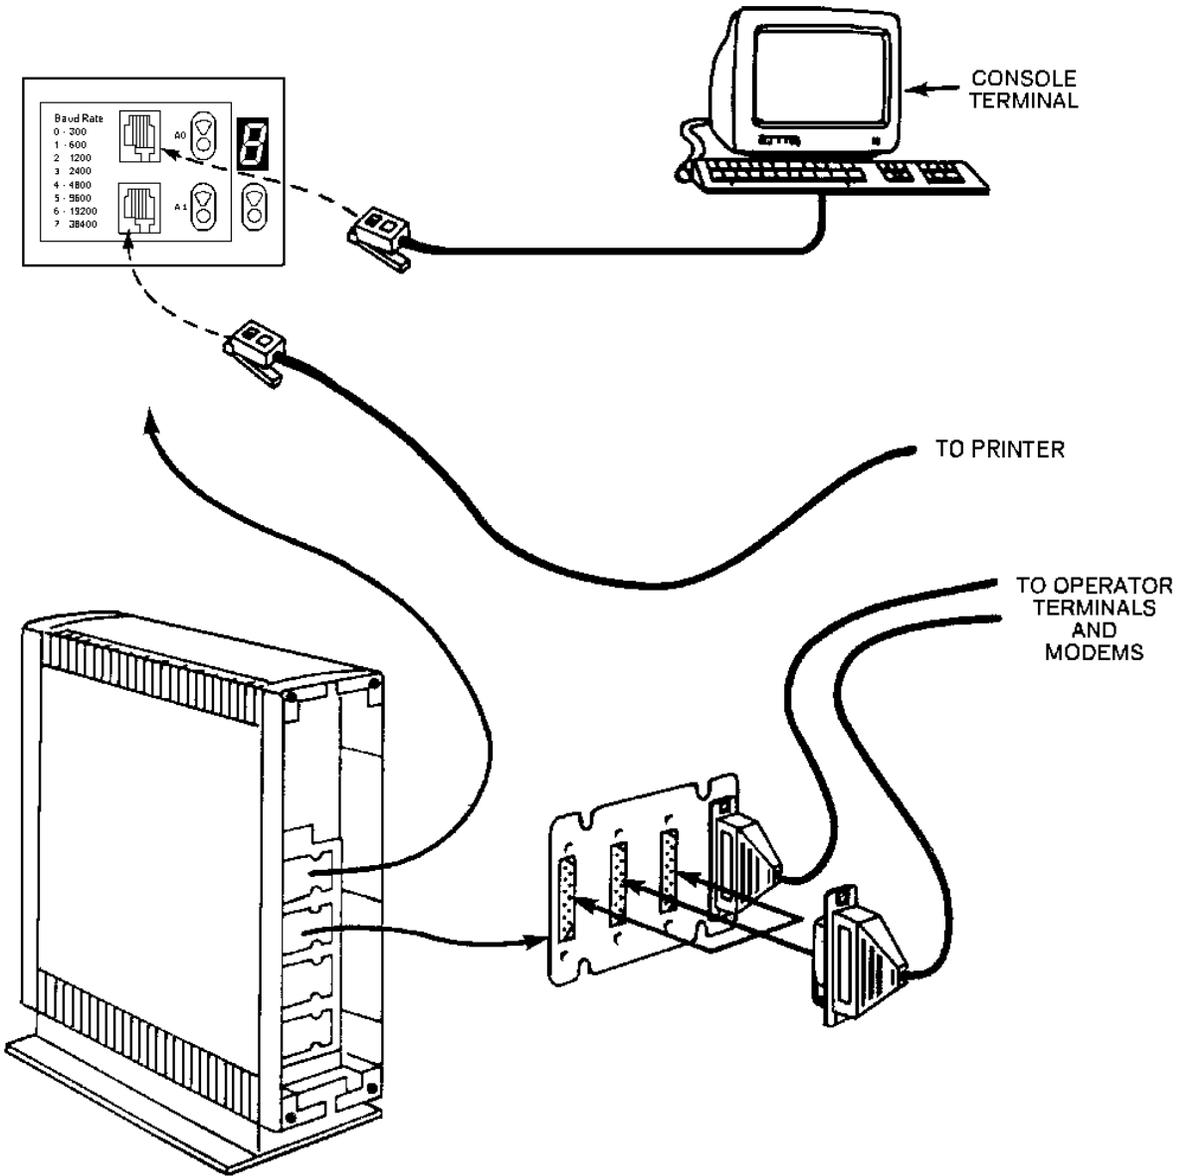

Figure 3 - Cable Connections For 11/53 In BA23 Enclosure
The proper cable connections for the system manager are shown in Figures 3 thru 5. The console terminal and the printer (if used) are connected as shown in the illustration. Operating position terminals and modems are connected to the remaining ports. The physical location of the communications ports on the system may differ from the illustration.
2. Insure that a video display terminal is connected to the console port of the computer (see Figures 3 thru 5). This will permit the operator to monitor the startup sequence for any possible errors. Turn the power on to the console terminal.